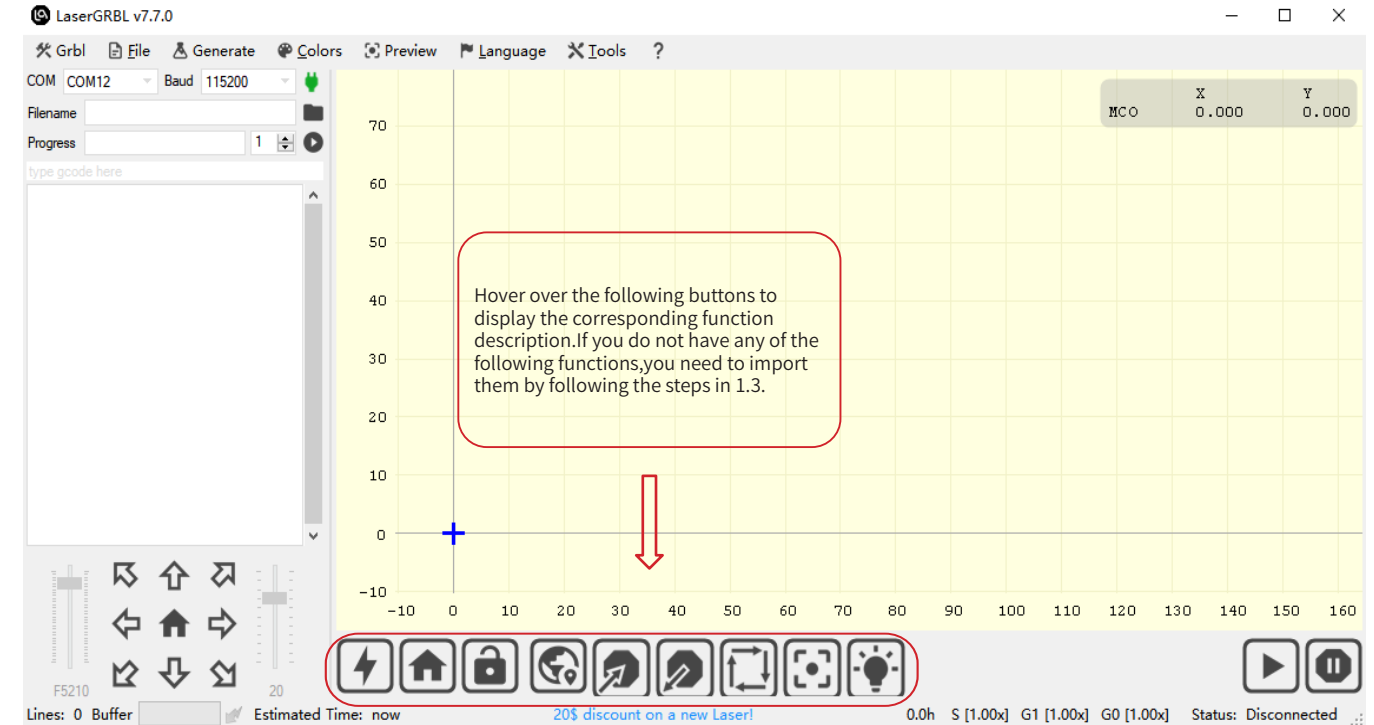

Figure 2 Interface of LaserGRBL
- The installed software is shown as the figure 2.